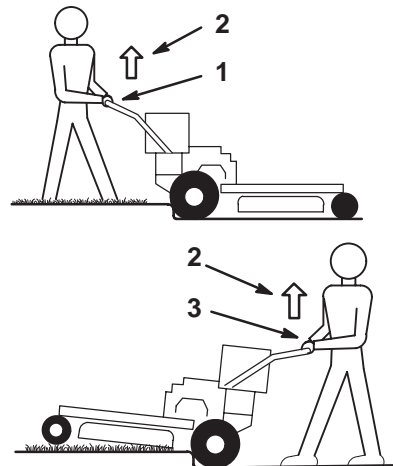

Figure 19
3. Drive machine until the castor wheels contact curb (Fig. 19).
4. Lift the front of the machine by pushing down on the handle (Fig. 19).
5. Drive machine until drive wheels contact curb (Fig. 19).
6. Lower the front of the machine (Fig. 19).
3. Drive the machine until drive wheels contact curb (Fig. 19).